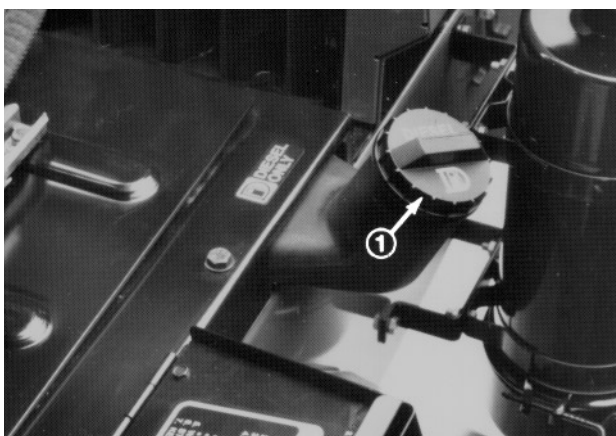

Figure 6
2. Remove cap from the fuel tank (Fig. 6) and fill the 8 gallon (34 l) tank to within 1 inch (25 mm) from the top with diesel fuel. Install fuel tank cap tightly after filling tank.